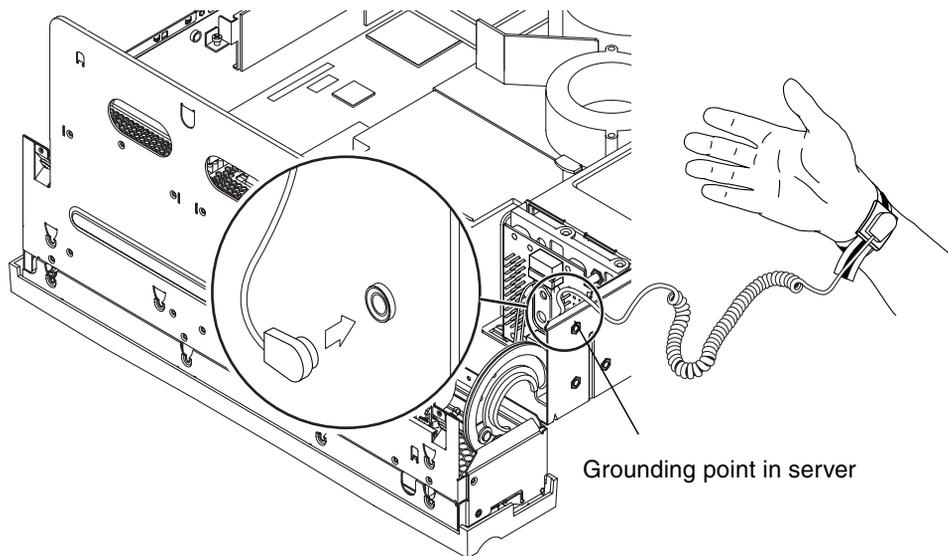

FIGURE 2-8 Grounding Point in the Server
3. Attach one end of the antistatic strap to the grounding point inside the server, and the other end to your wrist (FIGURE 2-8).